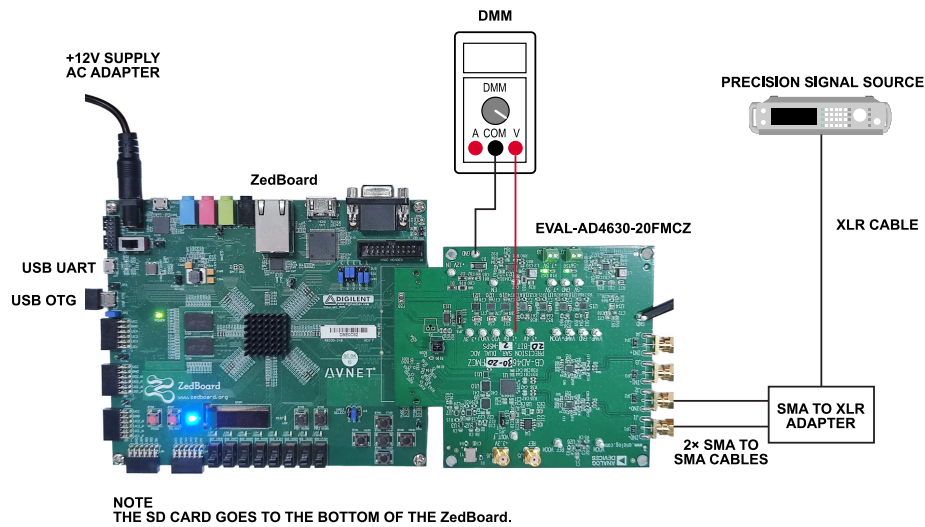

Figure 2. EVAL-AD4630-20FMCZ ZedBoard (Left) Connected to the EVAL-AD4630-20FMCZ Evaluation Board (Right)
3. Connect the EVAL-AD4630-20FMCZ evaluation board and ZedBoard firmly together through FMC connector (see Figure 2).